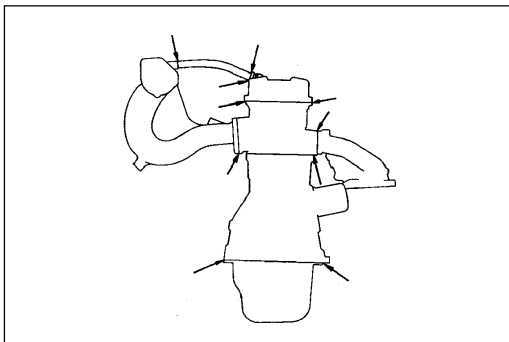

Figure 3-11
(1) After starting the engine, disconnect the vacuum pipe.
(2) Make sure that there is vacuum present at the canister control valve (TEV) port when selecting "ACTIVE TEST" and "PURGE TEV" based on the display on the fault diagnosis instrument.
(3) After "ACTIVE TEST", connect the vacuum pipe.
(4) Carry out "ECM DATA MONITOR" on the fault diagnosis instrument, and then select "PURGE TEV" for operation inspection.
(5) Start up the car after the engine warms up, and make sure the TEV ON from OFF (see Figure 3-11).